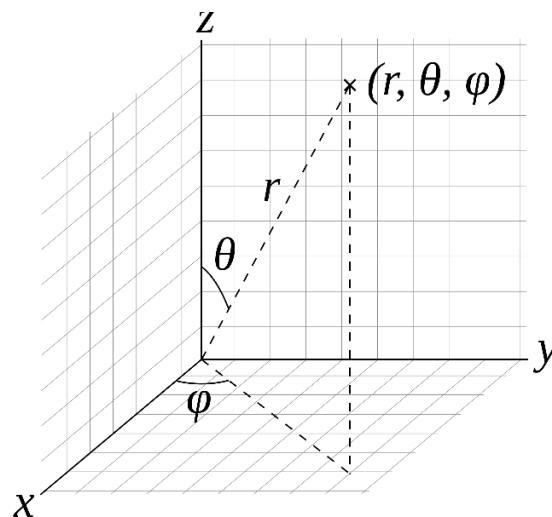

Figure E-1. Definition of the spherical coordinate that is being used for sun vector outputted and the construction of error table [2]
- 2. Two angle errors will be measured in each testing condition, one in Phi and the other in Theta, defined in Figure E-1. Totally 108 testing conditions for completing the error table, exemplified in Table E-1.**